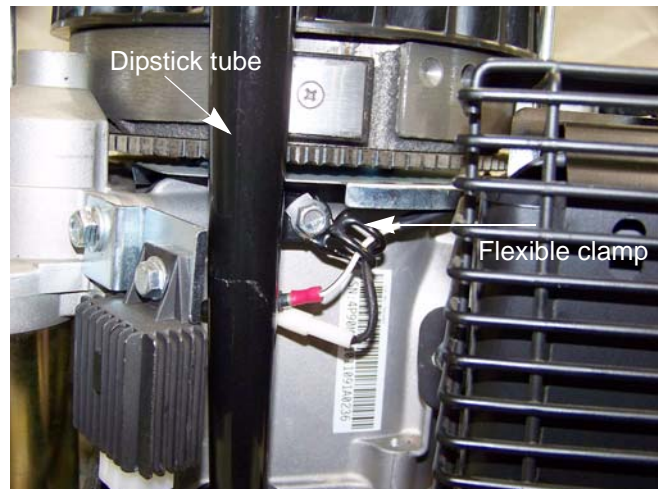

Figure 5.2
2. Remove the screw that passes through the flexible clamp and the dipstick tube mounting flange using a 10 mm wrench. See Figure 5.2.